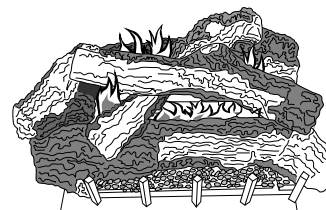

Figure 56 - Typical Flame Pattern for (V)V36 and (V)V42 Series Models
Figure 56 shows a typical flame pattern for (V)V36 and (V)V42 series models.